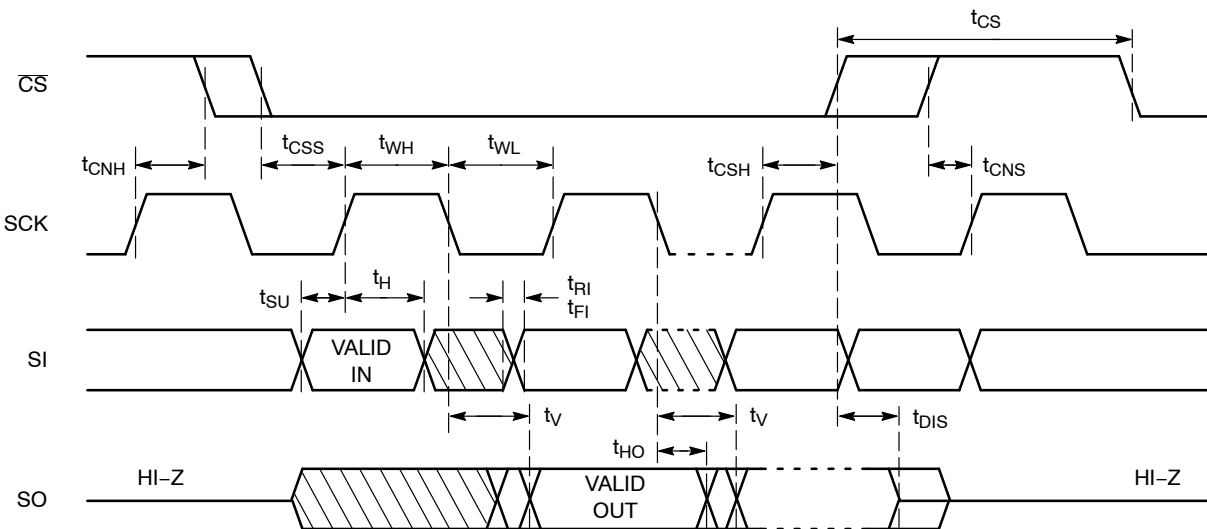

Figure 2. Synchronous Data Timing
9. **All Chip Select (CS) timing parameters are defined relative to the positive clock edge (Figure 2). t_{CSH} timing specification is valid for die revision D and higher. The die revision D is identified by letter “D” or a dedicated marking code on top of the package. For previous product revision (Rev.C) the t_{CSH} is defined relative to the negative clock edge.**
After a high to low transition on the $\overline{CS}$ input pin, the CAT25128 will accept any one of the six instruction op-codes listed in Table 10 and will ignore all other possible 8-bit combinations. The communication protocol follows the timing from Figure 2.